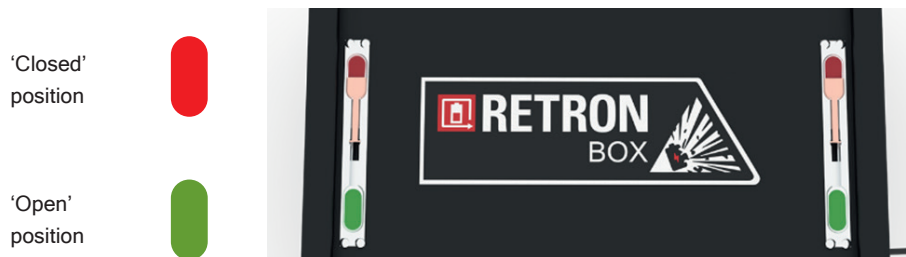

Fig. 2: Locking lever in the 'closed' position
1. Move the lever of the snap locks into the 'open' position (Section 3.1, Fig. 2) and remove the lid of the RETRON BOX.